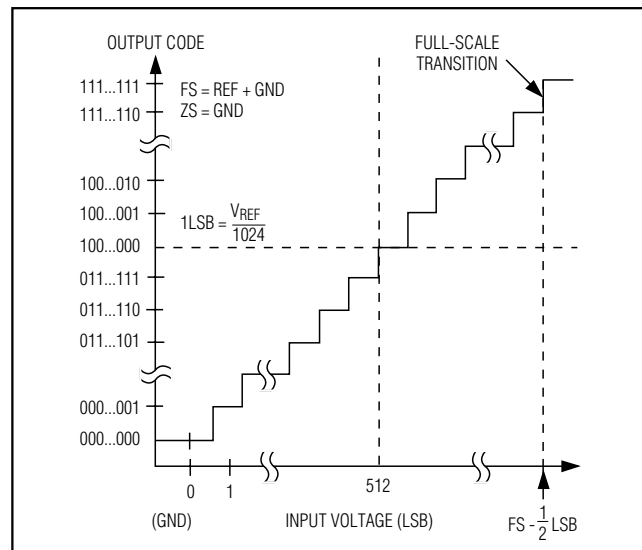
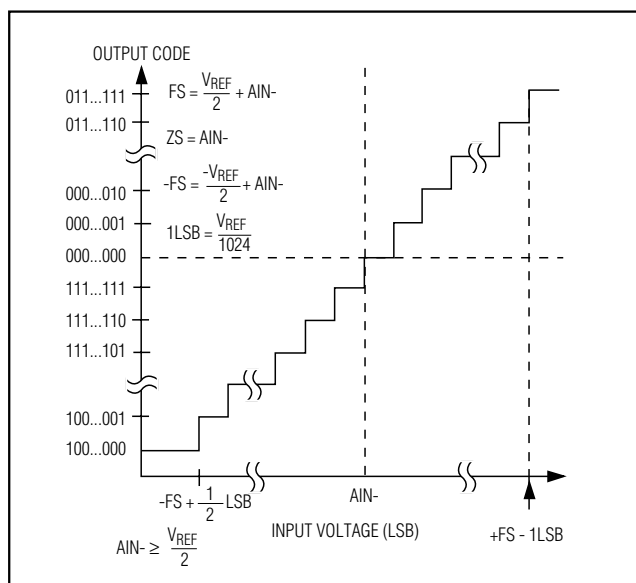

Figure 12. Unipolar Transfer Function
Figure 13. Bipolar Transfer Function
Output data coding for the MAX1136-MAX1139 is binary in unipolar mode and two's complement in bipolar mode with 1LSB = (V_{REF}/2N) where 'N' is the number of bits (10). Code transitions occur halfway between successive-integer LSB values. Figure 12 and Figure 13 show the input/output (I/O) transfer functions for unipolar and bipolar operations, respectively.